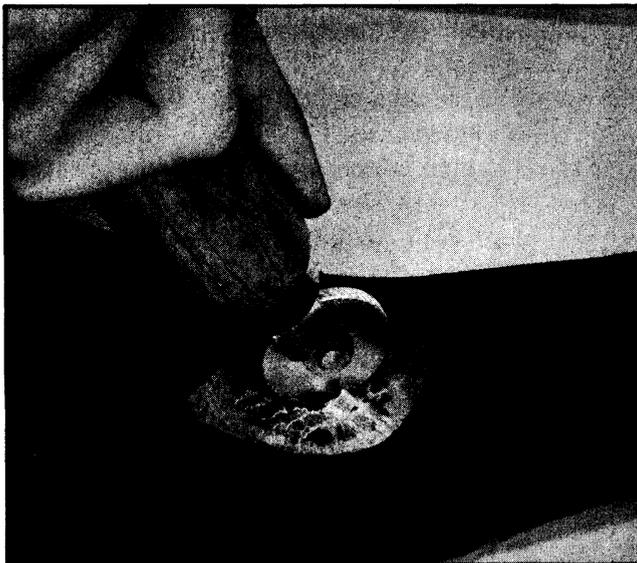

Fig. 4-16 Rolling the Patch
6. Remove foil backing from patch. Place over injury and stitch down firmly, especially the edges, with roller tool included in kit. To prevent buckling and insure a good seal, roll patch from the center toward the outer edges. Vulcanization is completed chemically. (See Fig. 4-16) The repaired tire can be placed back in service immediately.